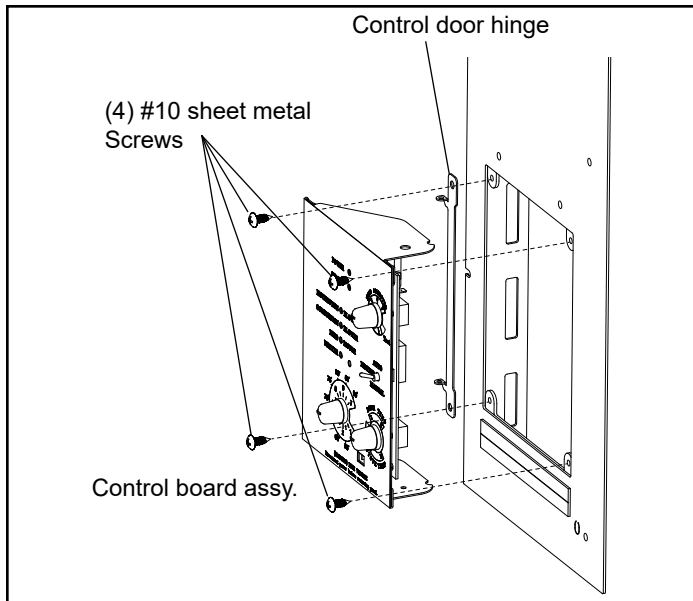

Figure 5.5 - Install control board assembly.
Using (4) #10 sheet metal screws located in the hardware pack, install the control door hinge and control board assembly to the left side wing surround, Figure 5.5.